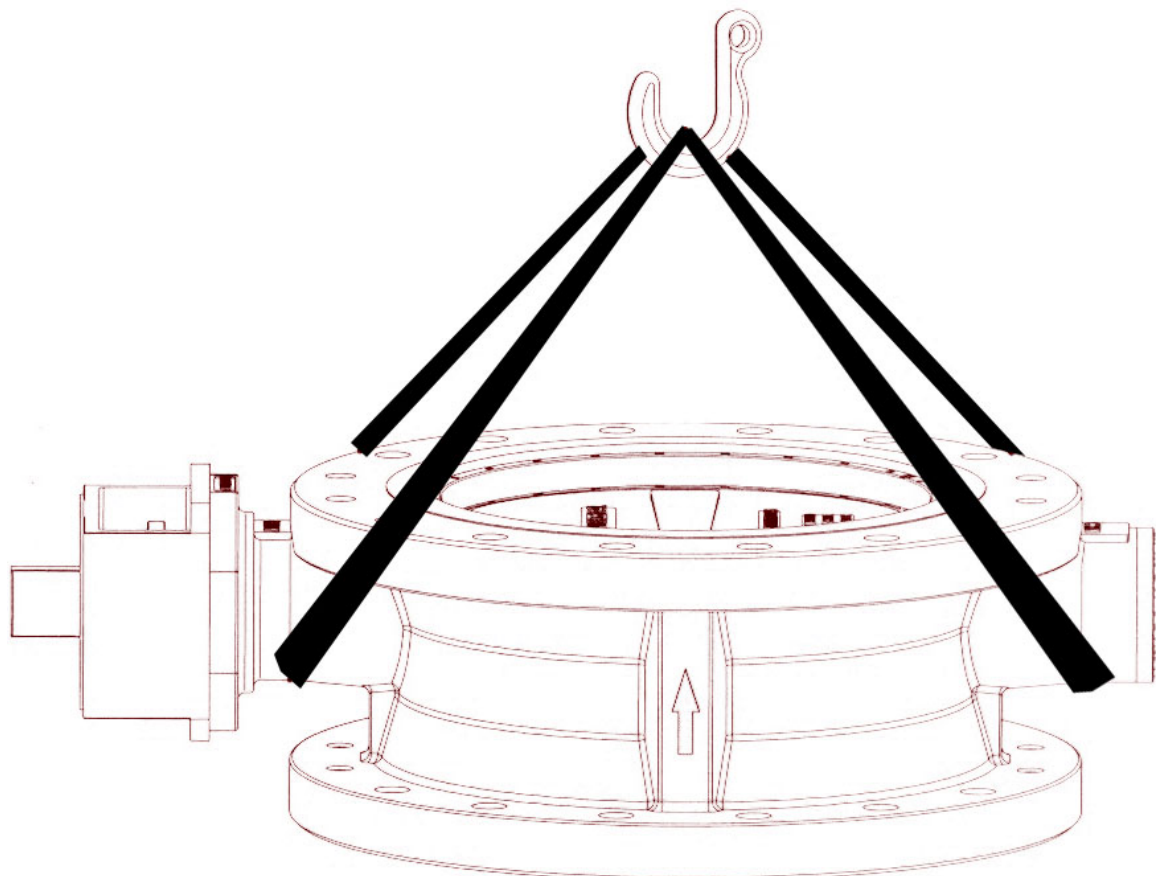

Fig .1
- Lift the valve properly as shown in figure 1
Valve should be lifted by using chain or bearer cables as shown in figure 1. (Take care that Valve should not damage while handing).